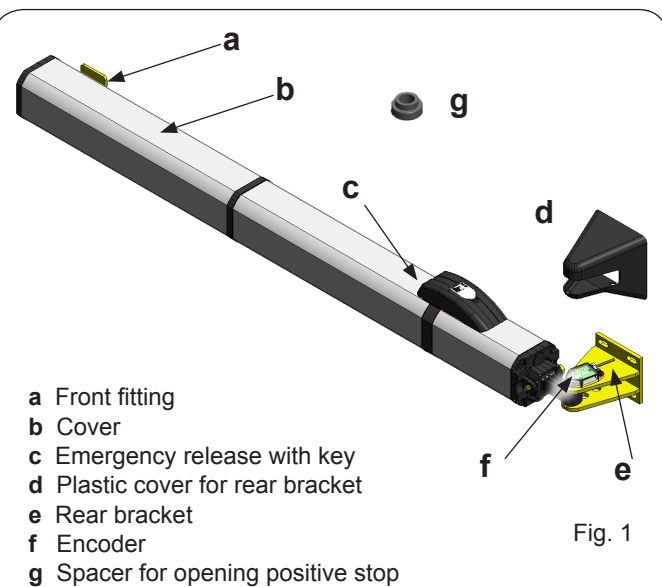

Fig. 1
- ❷ RX Photocells (receiver) 4 x AWG 20
- ❷ TX Photocells (transmitter) 2 x AWG 20
- ❸ Electronic control unit AC power 3 x AWG 14
- ❹ Key-operated push-button 2 x AWG 20
- ❺ Flashing lamp 24 V dc 2 x AWG 16
- ❻ Opening positive stops*
- ❼ Electric lock and closing mechanical stop 2 x AWG 14
* Not necessary when using built in positive stops (Fig.1 Ref. g).